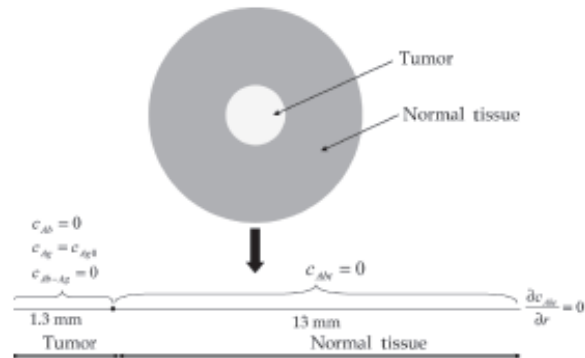

Figure 6.12
**Boundary conditions** The boundary conditions are shown in Figure 6.12. On the left tumor boundary, species flux for all species is zero due to symmetry. On the right normal tissue boundary, species flux is zero as the boundary is considered to be at a large distance. Initially, there is no antibody and complex in the domain. The tumor has an initial antigen concentration of 76 000 nM (Table 6.5).
As discussed earlier, the shape of the tumor is a sphere. All the computations can, therefore, be done in the spherical coordinate system. Since the concentrations are dependent only on the radial distances, as can be seen in Equations 6.13 and 6.14, a simplified geometry consisting of a line can be used for the model (Figure 6.12). This reduces the amount of computational resources that would be required if we modeled the complete sphere. However, the governing equations need to be solved in the spherical coordinate system. COMSOL solves all the governing equations in the Cartesian system and hence, we need to modify the equations in COMSOL to implement the spherical coordinate system. We take the species transfer equation in the Cartesian (1D) and spherical (with radial dependence only) systems: